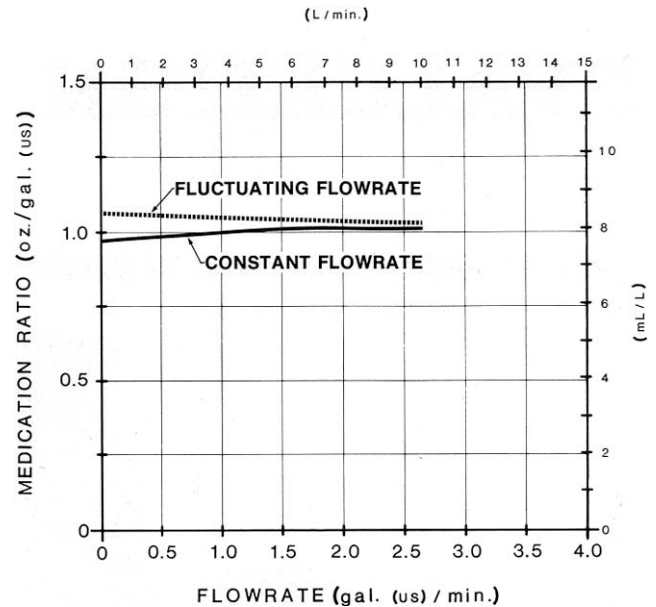

FIGURE 1. Medication ratios vs flow rates.
**Accuracy:** Medication ratios at constant and fluctuating rates are shown in FIGURE 1. Observed medication ratios were slightly higher than the design ratio of 1.0 oz/gal (U.S.) (7.8 mL/L) for constant and fluctuating flow rates.